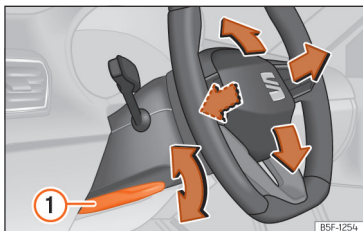

Fig. 71 Lever in the lower left side of the steering column.
- Pull lever >>> Fig. 71 ① down, move the steering wheel to the desired position and lift the lever back up until it locks.
- After adjusting the steering column, push lever >>> Fig. 71 ① firmly upwards so that the steering wheel does not accidentally change position while driving.